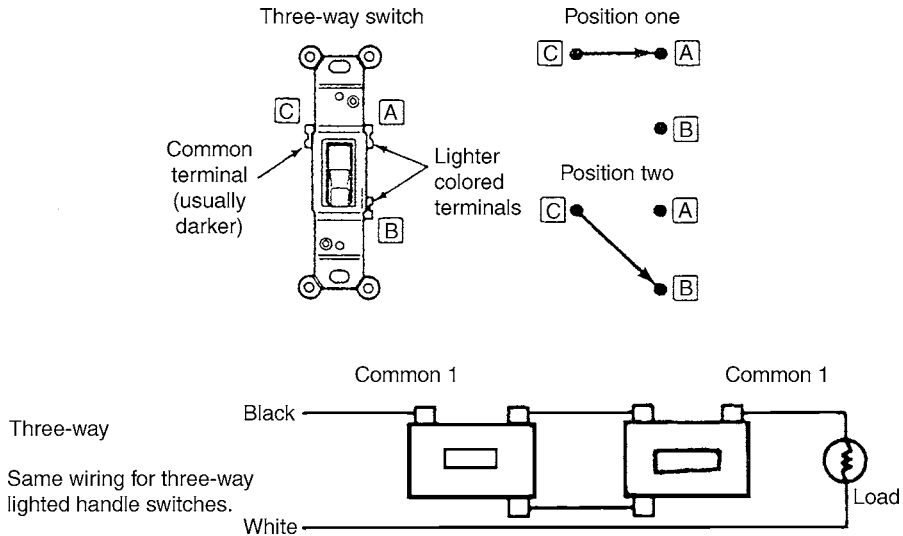

FIGURE 8-36. Three-way switch.
*Three-way switches* have three screws. The three screws are connected so that the *C* is common and the other two are travelers. That means that as the switch is operated it completes the circuit from one traveler to the other. They have to be used in pairs in order to operate properly. Three-way switches are necessary in order to have four-way switches operate. This type of switch is used to turn a light or device on or off from two different locations. See Figure 8-36.